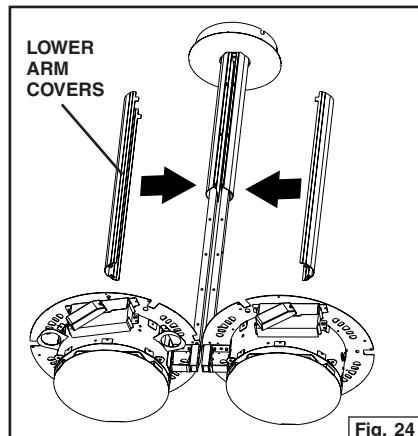
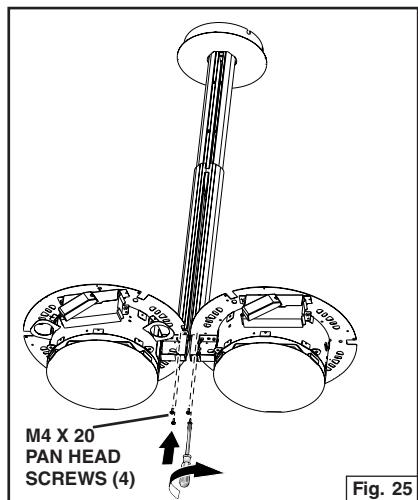

Fig. 24
Fig. 25
3. Attach the Lower Arm Covers with (4) M4 x 20 pan head screws. Remove the protective coating. Fig. 24 and Fig. 25.